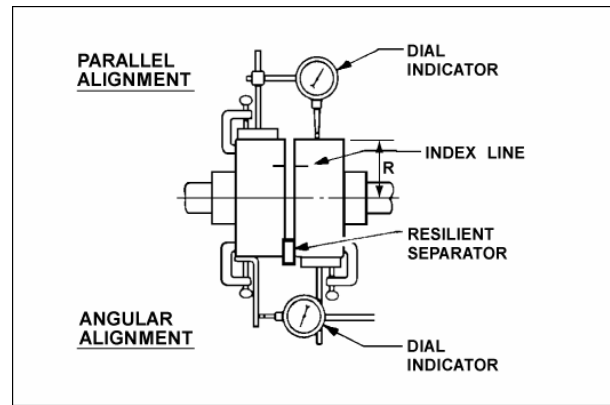

Figure 8: Checking Alignment (Method 2)
See Figure 8.
- c. Scribe index lines on coupling halves as shown in Figure 8.
T.I.R., while a satisfactory angular misalignment is .004" T.I.R. per inch of radius R. See Figure 8.